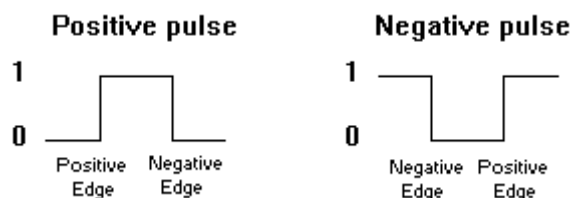

Figure1 Clock pulse transition
The clock pulse goes through two signal transitions: from 0 to 1 and the return from 1 to 0. As shown in figure1, the positive transition is defined as the positive edge and the negative transition as the negative edge.
By assuming previous values $Q=1$ and $\bar{Q}=0$, for $S=0$ and $R=0$ there is no change in the output. The flip-flop in Fig1 has two useful states. When $Q=1$ and $\bar{Q}=0$, it is in the *set state* (or 1-state). When $Q=0$ and $\bar{Q}=1$, it is in the *clear state* (or 0-state).
The outputs Q and $\bar{Q}$ are complements of each other and are referred to as the normal and complement outputs, respectively. The binary state of the flip-flop is taken to be the value of the normal output. When a 1 is applied to both the set (S) and reset (R) inputs of the flip-flop in Fig1, both Q and $\bar{Q}$ outputs go to 0. This condition violates the fact that both outputs are complements of each other. In normal operation this condition must be avoided by making sure that 1's are not applied to both inputs simultaneously.